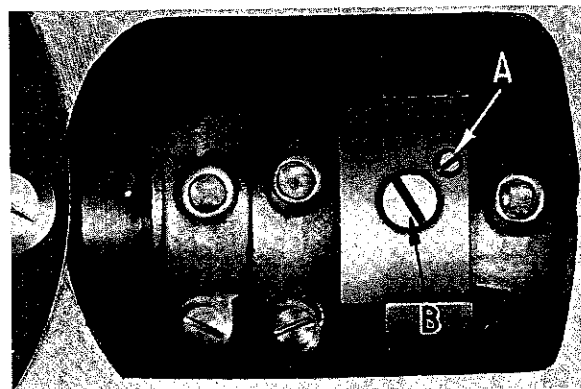

Fig. 15
screw (A, Fig. 15) and adjusting screw (B) are in view. Loosen lock screw and turn adjusting screw in the required direction. Turning the adjusting screw clockwise shortens the stitch and counterclockwise lengthens it. Retighten lock screw and swing the arm cover plate back into position.
Stitch length adjustment is made through the access hole in the top of the arm (Fig. 15). Swing arm cover plate out of position and turn the hand-wheel in operating direction until lock